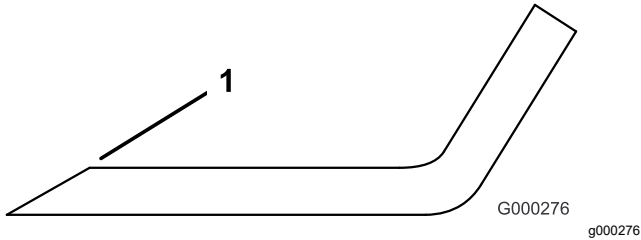

Figure 74
1. Use a file to sharpen the cutting edge at both ends of the blade (Figure 74).
Note: If the blade is not balanced, file some metal off the end of the sail area only (Figure 74).